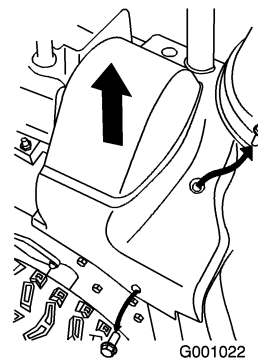

Figure 39
2. Lift up the right side of the belt cover (Figure 39).